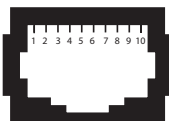

Fig. 2 Remote Control RC-300 - Pinout of Modular Jack RJ-50
- Green LED (6) marked POWER. This LED will be lighted when the inverter is in ON condition. When the inverter is in OFF condition, this LED will not be lighted. This LED shows that DC input is available to the inverter and that the input section of the inverter is operating normally
- Red LED (4) marked OVER LOAD. When lighted, it indicates that the AC output of the inverter has been shut down due to over load
- Red LED (5) marked OVER TEMP. When lighted, it indicates that the AC output of the inverter has been shut down due to over temperature
The pinout of the RJ-50 Modular Jack (7) at the back of the RC-300 is given at Fig. 2 below: